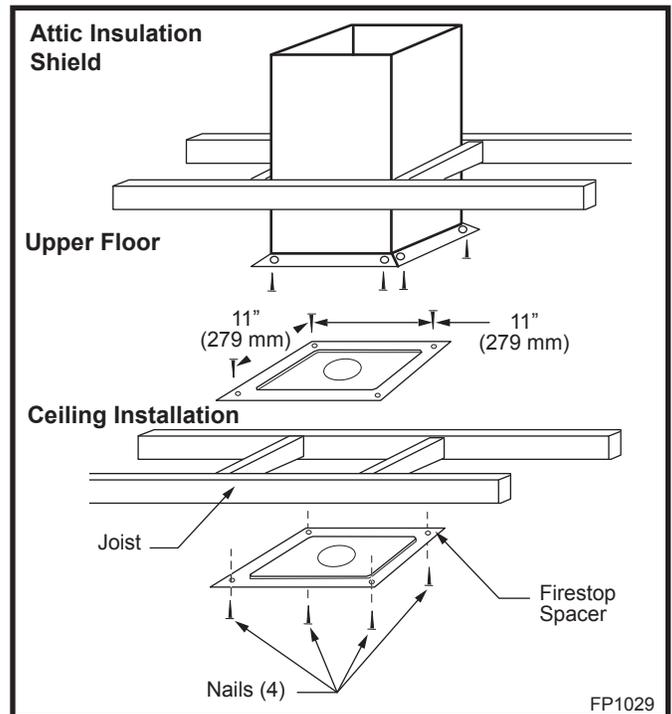

Fig. 42 Place firestop spacer(s) and secure.
6. Place firestop(s) #7DVFS or Attic Insulation Shield #7DVAIS into position and secure. (Fig. 42)